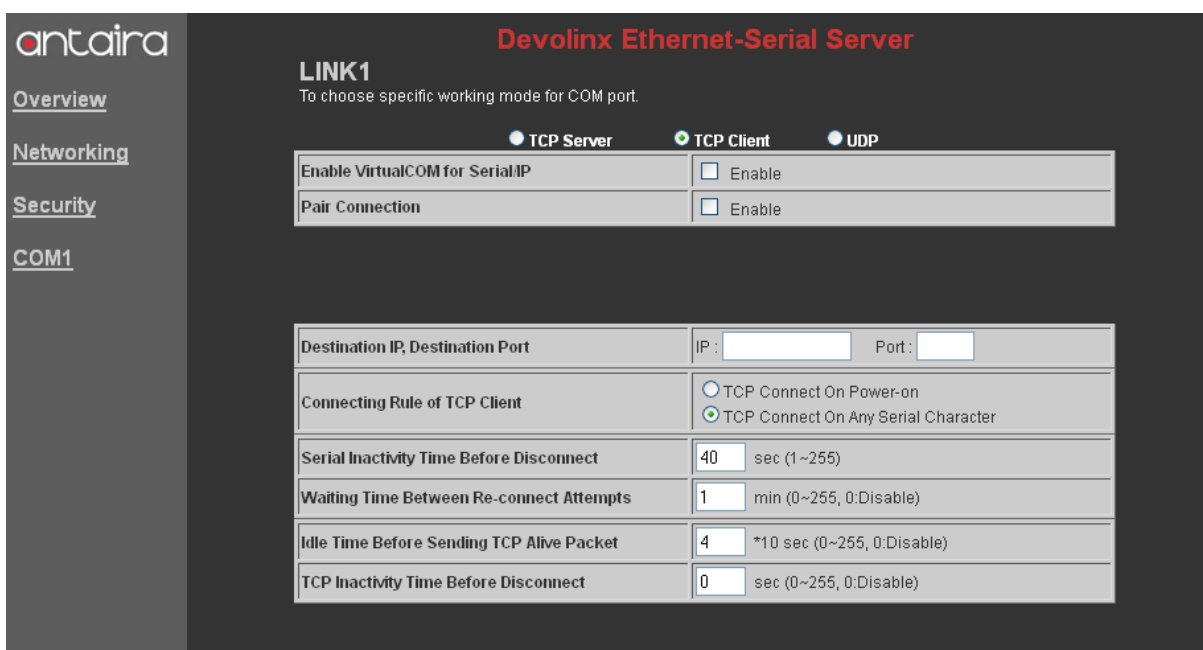

Figure 3.22 Com1 setup-TCP client
1. Configure STE-501C as TCP client. For example, the destination IP is 10.0.29.11, destination port is 4660. (Figure 3.22)